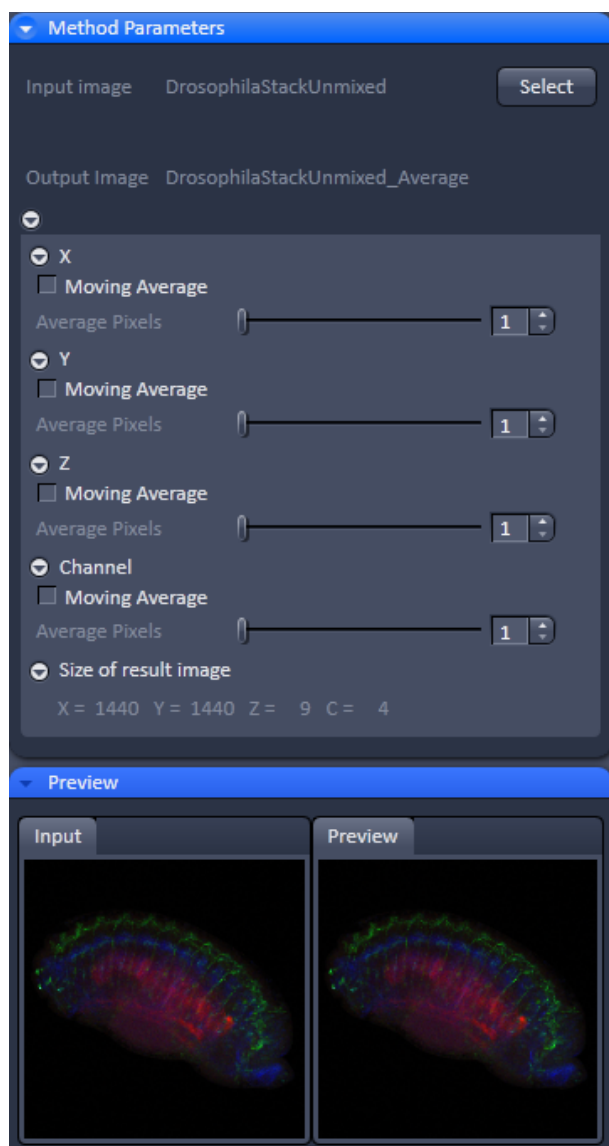

Fig. 264 Processing – Average
- Click on the triangle buttons to show or hide the **Method Parameters** and **Preview** panels (Fig. 264) for the function.